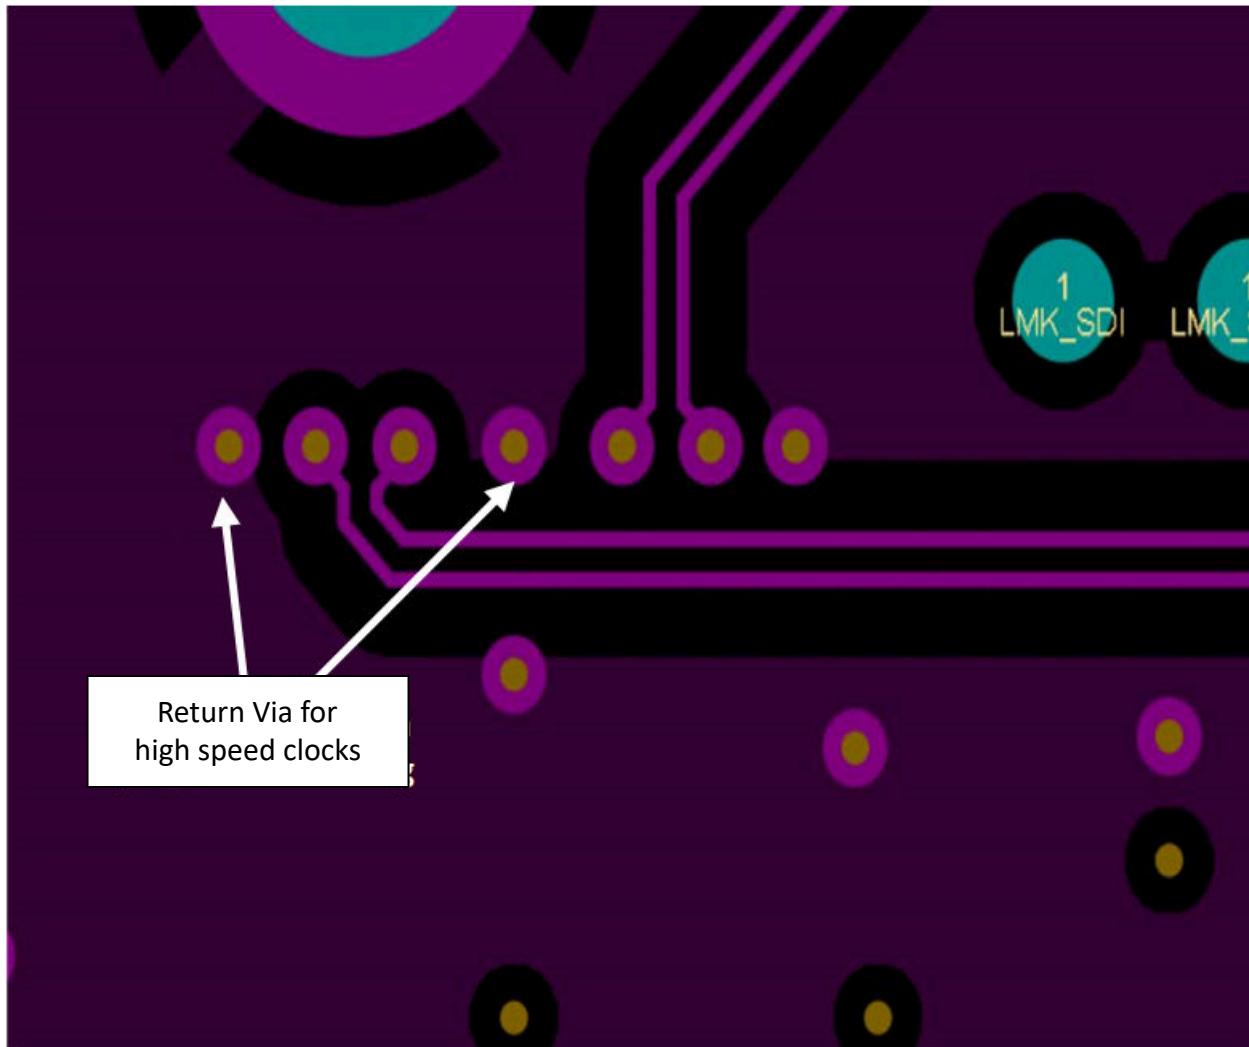
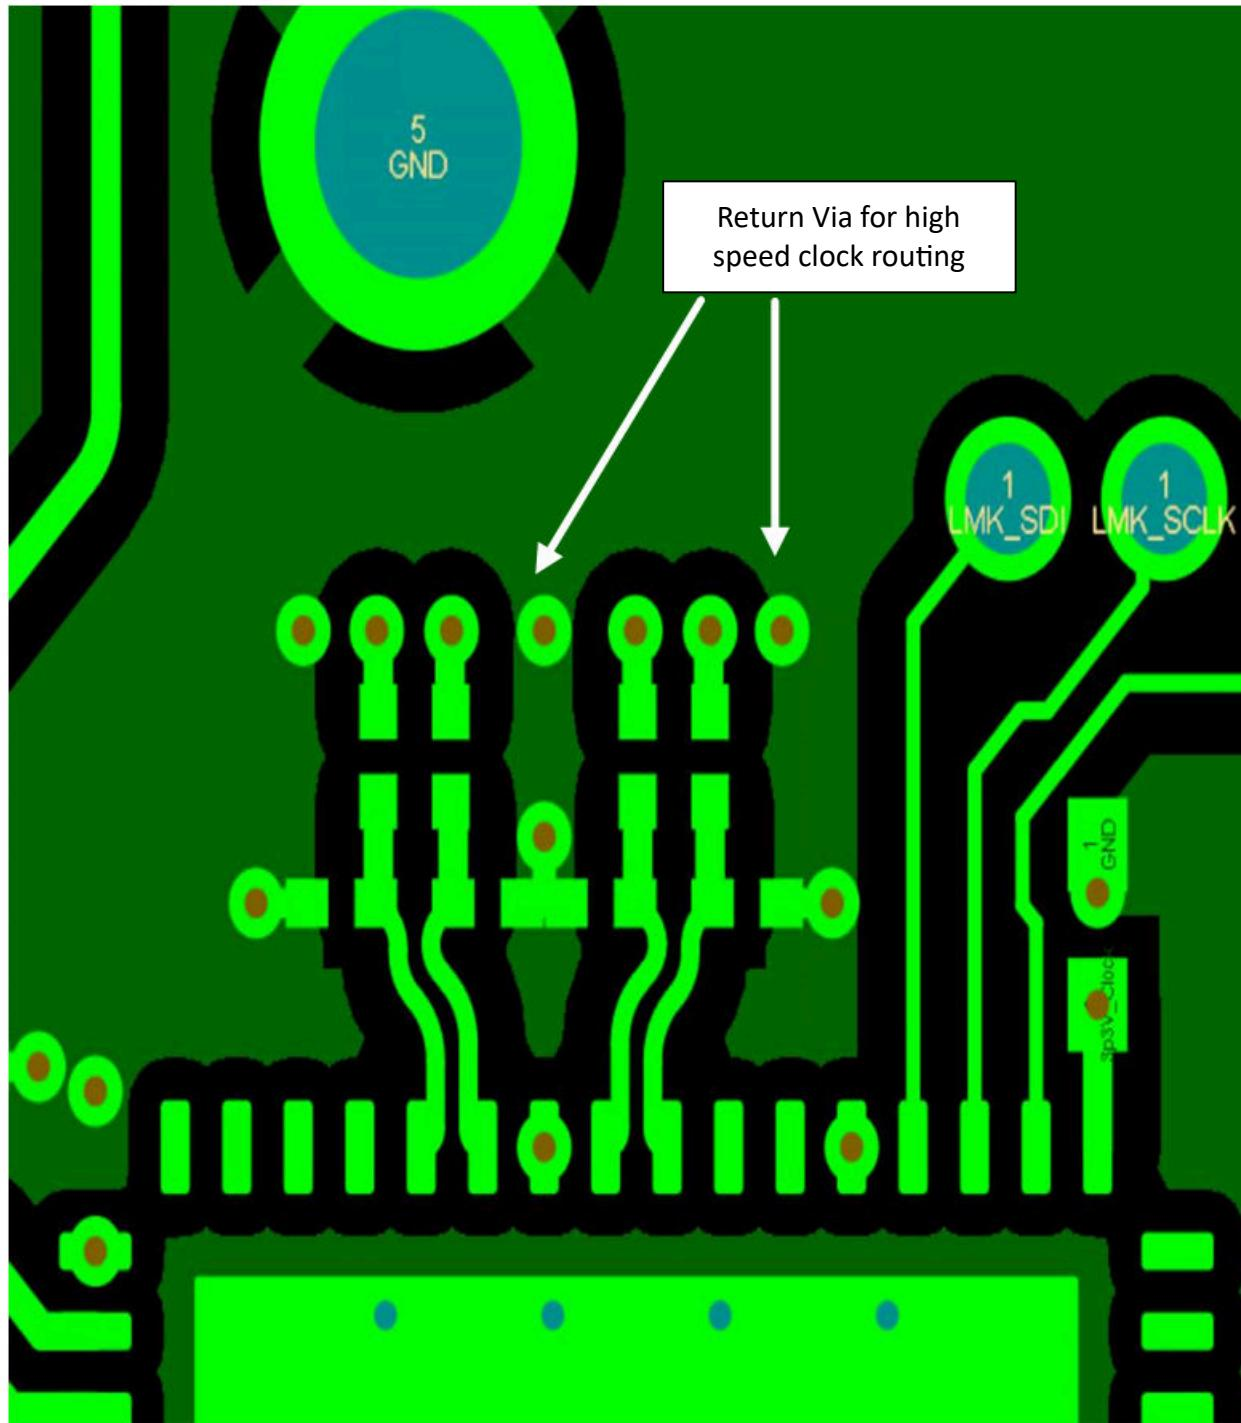

図 8-27. Return Vias for High Speed Clock
図 8-28. Return Vias for High Speed Clock Near Clock Generator
8. When high-speed signals must transition to another layer using vias, transition as far through the board as possible (top to bottom is best case) to minimize via stubs on top or bottom of the vias. If layer selection is not flexible, use back-drilled or buried, blind vias to eliminate stubs. Always place two ground vias ("return vias") close to critical high-speed signal trace via when transitioning between layers to provide a nearby ground return path. See 図 8-27 and 図 8-28 as examples.